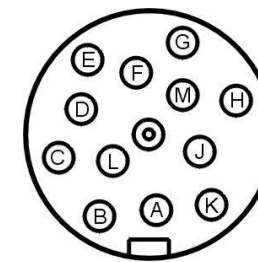

Figure 1
- If the back plate is mounted on the valve block VB25 or if the valve block is mounted on any plate in a machine or device, a non-flanged sealing screw G 1/8 (similar to DIN EN ISO 4026) must be screwed into the central connection on the back plate (see Fig. 1) and sealed.
For the electrical supply the valve block has a 12-pin M16 plug-in connector (Fig. 1) for routing the supply voltage and the control signals. The integrated control electronics enable direct control of the 4 valves with currents of less than 1 mA without a power switch.